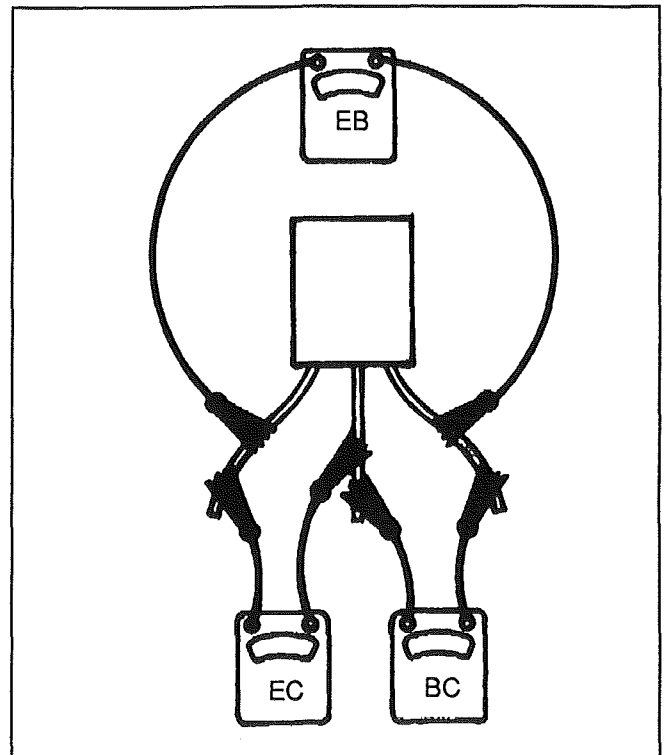

FIG. 33 - Checking transistors TR2
**Transistor TR2** = Change the ohmmeter to use the low scale. Check EB should read low and high. Check BC should read low and high. Check EC should both read high. If not replace TR2 (see fig. 33).